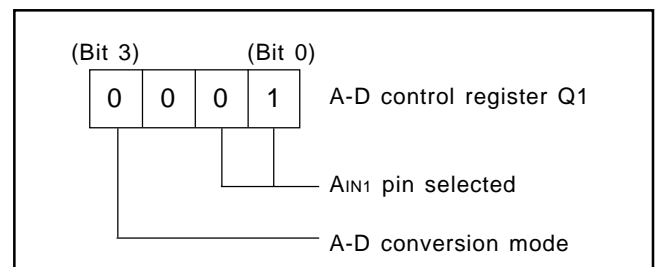

Fig. 29 Setting registers
- ① Select the AIN1 pin function and A-D conversion mode with the register Q1 (refer to Figure 29).
- ② Execute the ADST instruction and start A-D conversion.
- ③ Examine the state of ADF flag with the SNZAD instruction to determine the end of A-D conversion.
- ④ Transfer the low-order 2 bits of converted data to the high-order 2 bits of register A (TALA instruction).
- ⑤ Transfer the contents of register A to M(Z, X, Y) = (0, 0, 2).
- ⑥ Transfer the high-order 8 bits of converted data to registers A and B (TABAD instruction).
- ⑦ Transfer the contents of register A to M(Z, X, Y) = (0, 0, 1).
- ⑧ Transfer the contents of register B to register A, and then, store into M(Z, X, Y) = (0, 0, 0).